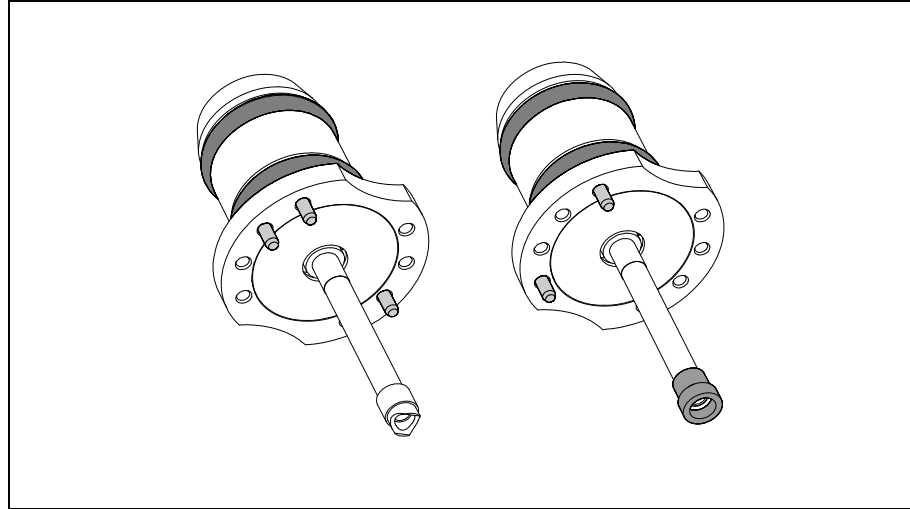

Figure 7-1. Stiff tools.
- Stiff tools, see Figure 7-1.